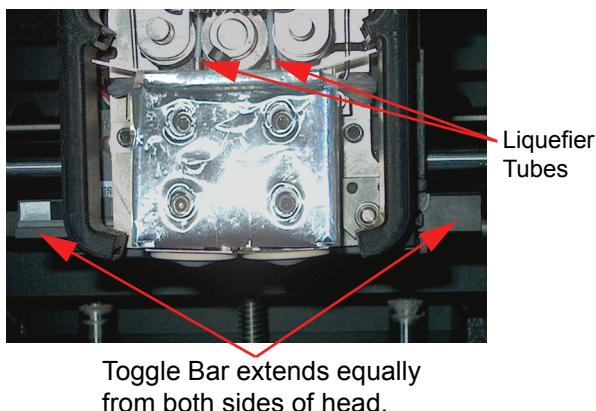

Figure 27: Tip Toggle Bar in Neutral Position
3. Place the tip toggle bar in neutral position (bar will extend equally from both sides of head - Figure 27). This can be done manually - push on the extended bar end.